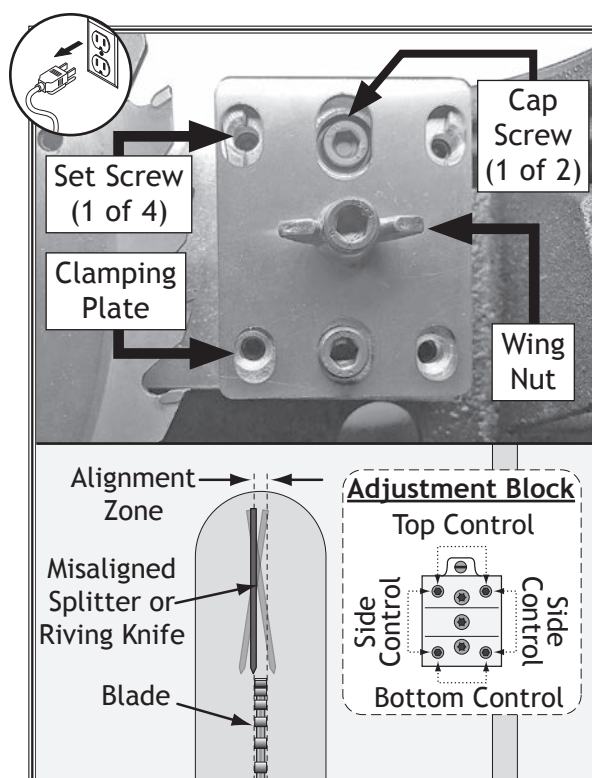

Figure 113. Set screws for adjusting spreader/riving knife position.
2. Loosen (2) cap screws and wing nut on mounting block, then adjust either top or bottom control set screws or side control set screws (see **Figure 113**) to move it the needed direction.